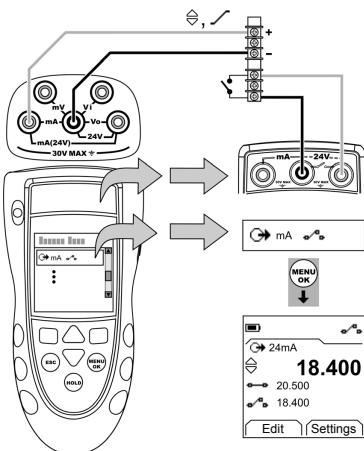

Figure 5: Example configuration - Switch test
1. Connect the instrument (Figure 5) and, if necessary, adjust the Set Up (Table 1).